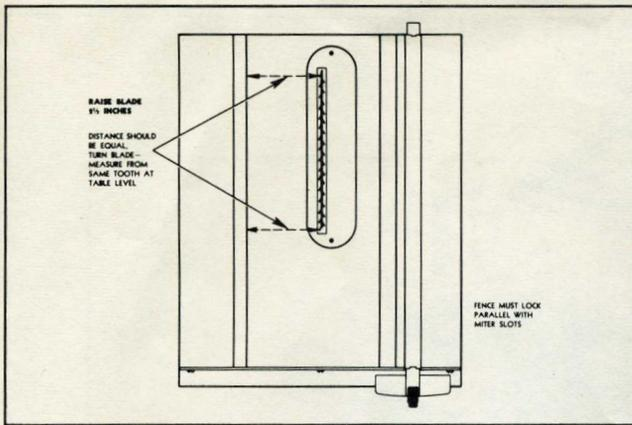

FIGURE 5
Install in opening provided in table top. See Fig. 5.
**The Blade Must Be Parallel with the Miter Slots in the Table to Get a Straight Cut.** (See Fig. 5).
2. Measure **accurately** from a raker tooth on the blade to an edge of either miter slot, as explained and shown in Fig. 5.